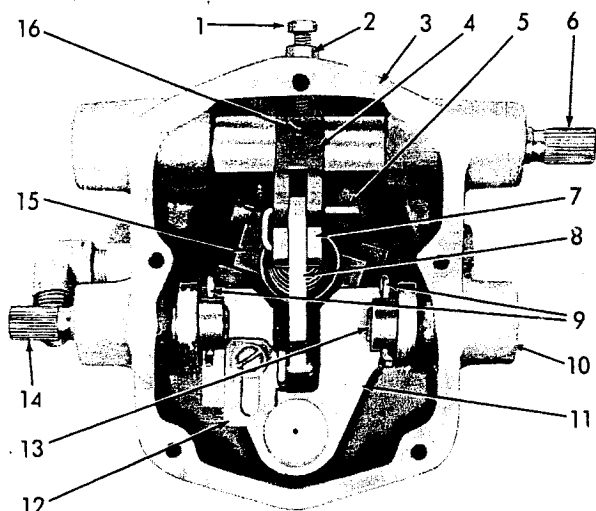
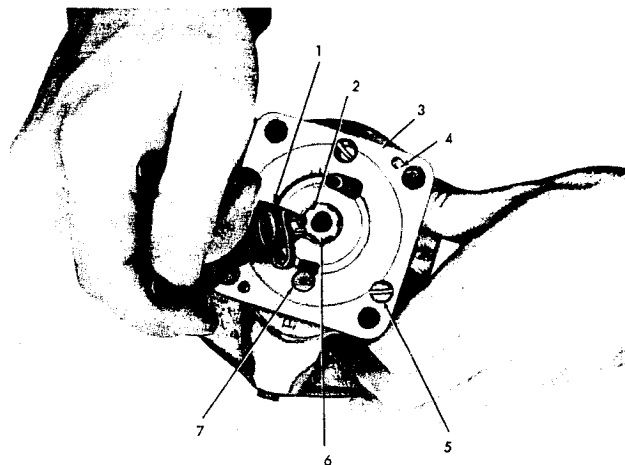
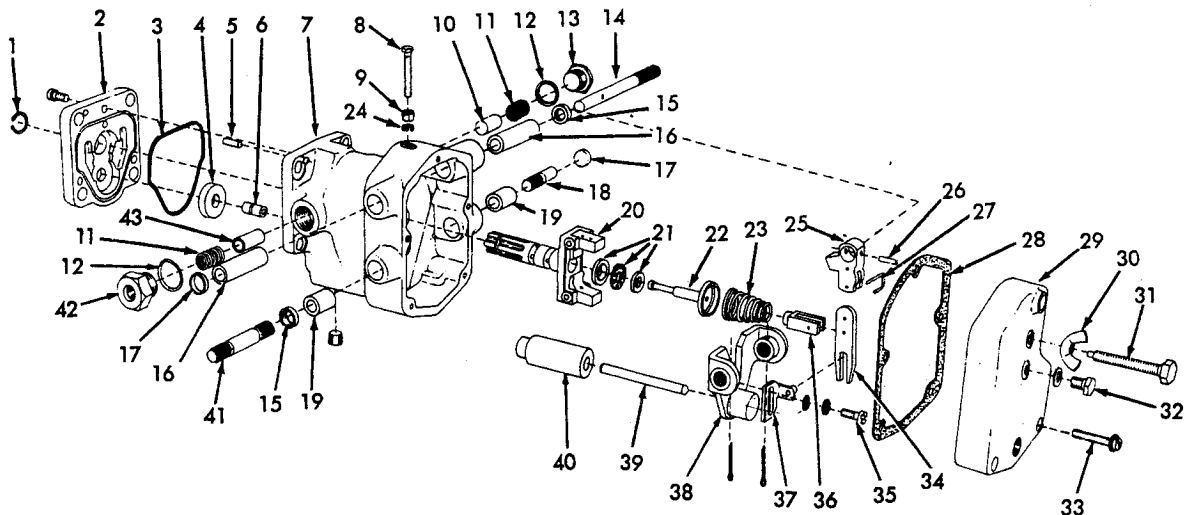

Fig. 14 -- Travel Speed Governor - Cover Removed (T-35103)
Fig. 15 -- Removing Ballhead Shaft Snap Ring (T-35117)
Fig. 16 -- Travel Speed Governor Parts
- b. Refer to Fig. 16, remove high speed adjustment screw and jam nut from top of governor housing; remove housing cover and gasket.
- c. Remove speed control and terminal shaft levers. Refer to Fig. 14, remove lever pin (5) and roll pin (16); remove speed control shaft, ballhead plunger (with fork, spring, and bearing assembly), floating lever, and speed control lever.
- d. Remove cotter pins, Fig. 14 (9), terminal shaft Fig. 16 (41) and stub shaft (18). Remove terminal lever assembly, power piston pin, Fig. 16 (39) and piston (40) from housing.
- e. Remove ballhead shaft snap ring, Fig. 15; pull ballhead assembly from housing.
- f. Remove base, Fig. 16 (2), sealing ring (3), and spacer (4); remove oil inlet plug (42), spring (11), and sleeve (43).
Do not remove terminal shaft bearings, Fig. 16 (19) or speed control shaft bearings (16) unless shafts are excessively worn.
- b. Install oil inlet sleeve, Fig. 16 (43) and spring (11) in bore; install oil inlet plug (42) with washer (12).
- c. Install spacer Fig. 16 (4) on stud (6); install base (2) on housing (use new sealing ring).
- d. Install ballhead assembly Fig. 16 (20), power piston (40) and pin (39) in housing; install ballhead snap ring, Fig. 15.
- f. Refer to Fig. 14, place terminal lever assembly (11) in housing; install terminal lever shafts and secure to terminal lever assembly with cotter pins (9). Install cup plug (10) in stub shaft bore.
- g. Move droop adjustment bracket to maximum droop position, Fig. 14; secure with droop adjustment screw.
- h. With ballarms, Fig. 14 (15) in collapsed position, install thrust bearings, Fig. 16 (21), ballhead valve plunger (22), spring (23), and ballhead spring fork (36) on ballhead assembly.
- i. Place speed control lever, Fig. 14 (4) in housing; install speed control shaft (6) and secure to lever with roll pin (16).
- j. Position floating lever Fig. 14 (8) on droop adjustment bracket (12), ballhead spring fork (7), and speed control lever (4); secure floating lever with pin (5). Lock pin by bending end.